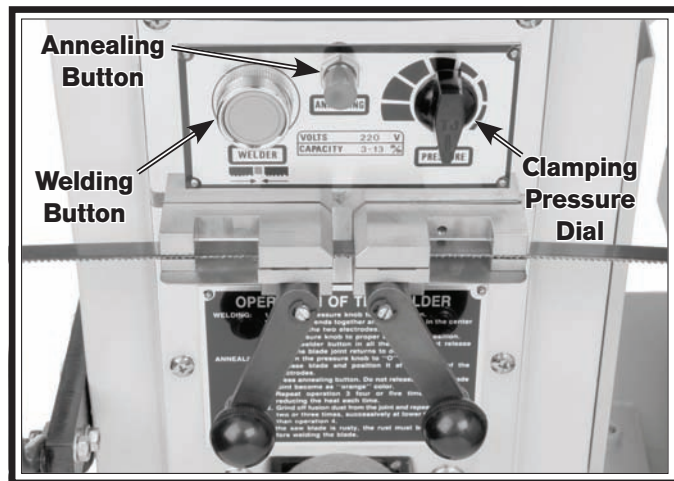

Figure 29. Blade ends in correct position for welding.
- Set the clamping pressure to 0" with the clamping pressure dial (**Figure 29**).
8. Place the other blade end in the opposite welding clamp and position it so that it evenly butts up against the opposing blade end, then lock it in place by rotating the lock lever all the way up, as shown in **Figure 29**.